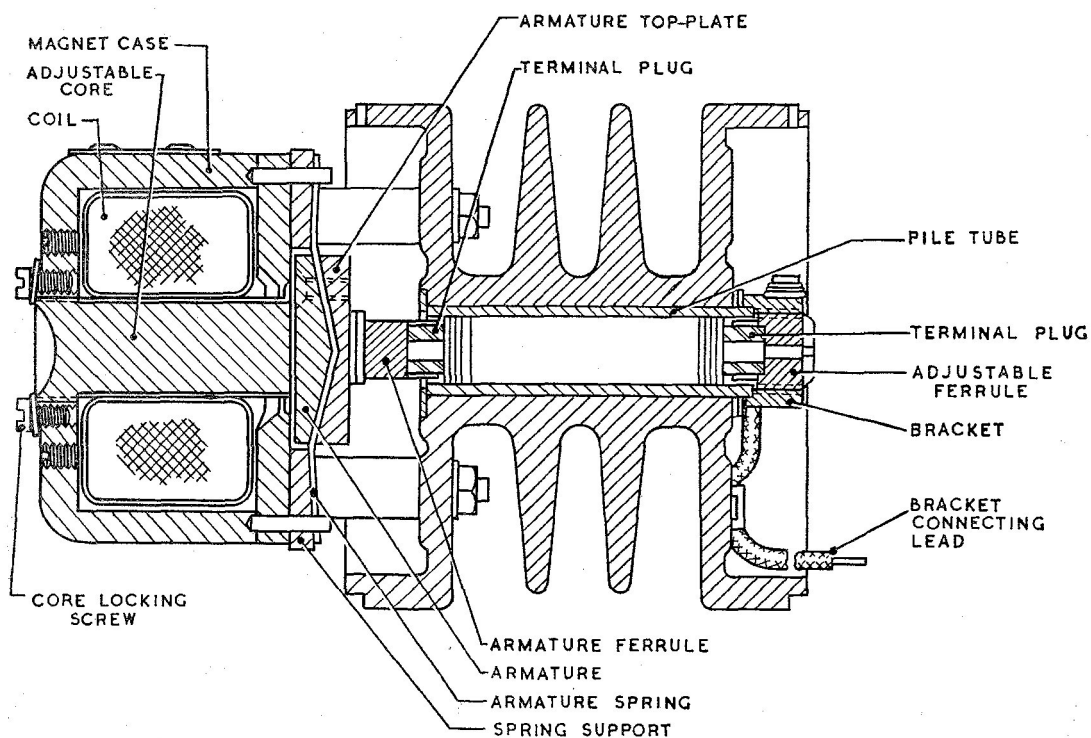

Fig. 1. Voltage regulator, Type 97
2. This regulator (*fig. 1*) is of the single carbon pile type, and in general construction and principle of operation is similar to the standard design described in A.P.4343, Vol. 1,